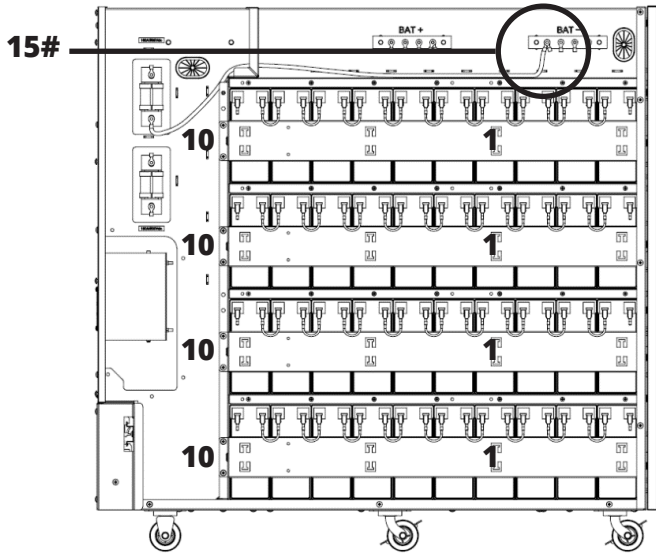

Figure 5-25
37. Connect - battery bus bar to the fuse (Figure 5-25).